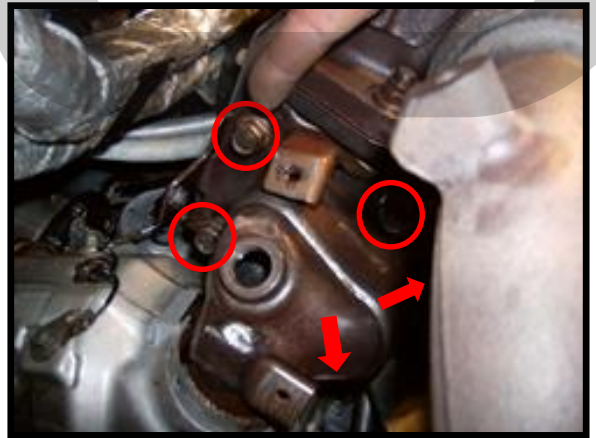

Figure 6b
c) Remove the five 14mm nuts attaching the downpipe to the turbo. Shown with **red circles and arrows in Figure 6b.**